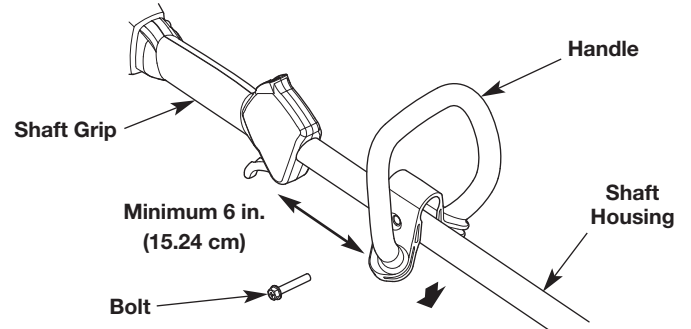

Fig. 3
1. Push the handle down onto the shaft housing (Fig. 3). The bolt hole in the handle should be to the right.
2. Insert the bolt into the bolt hole and push it through (Fig. 3). Tighten the bolt with a 3/8" socket, but do not tighten the bolt completely.
3. While holding the unit in the operating position (Fig. 11), move the handle to the location that provides the best grip. Place it a minimum of 6 inches (15.24 cm) from the end of the shaft grip (Fig. 3).
1. Loosen the bolt with a 3/8" socket (Fig. 3).
2. While holding the unit in the operating position (Fig. 11), move the handle to the location that provides the best grip. Place it a minimum of 6 inches (15.24 cm) from the end of the shaft grip (Fig. 3).